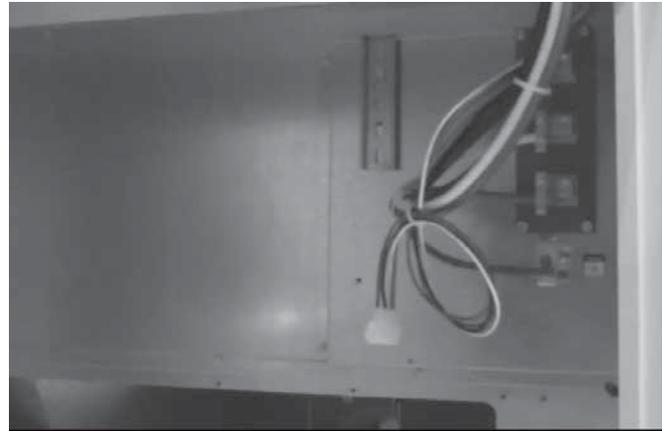

Figure 5. DIN Rail Location
4. Install the DIN rail mounting bracket inside of the unit and tightly secure it with two screws. See Figure 5. **NOTE:** This step needs to be performed only if circuit breakers are included with your kit.